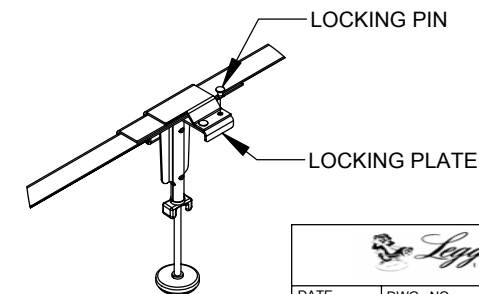

FIGURE 6
Step 6. Lock legs in place by turning LOCKING PLATE so that it locks into the slot in the LEG, then secure with LOCKING PIN. See Figure 6.